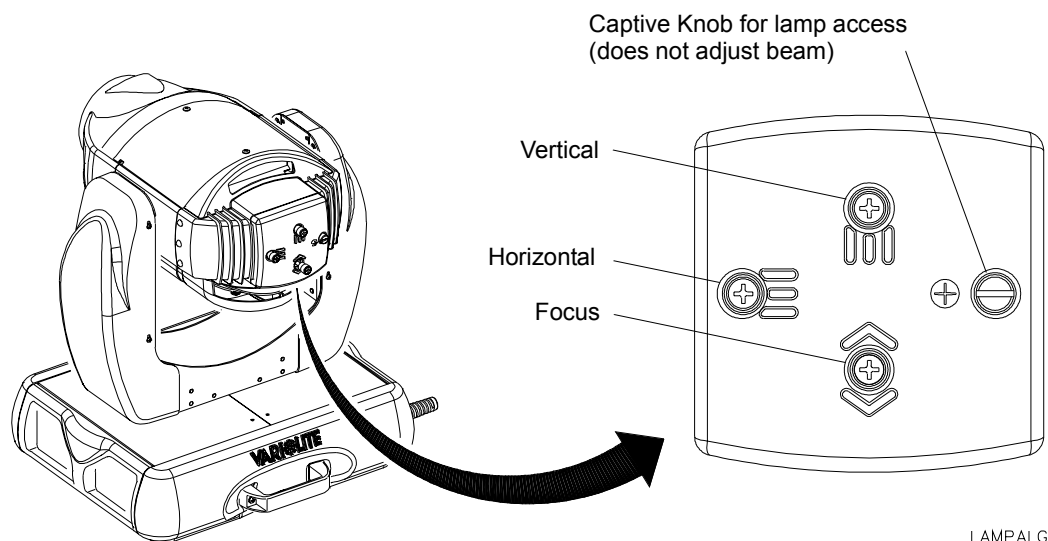

Figure 2-4: Aligning Lamp for Flat Field
- Step 3. At backcap, using Vertical and Horizontal knobs, adjust hot spot to center of beam (**Figure 2-4**).